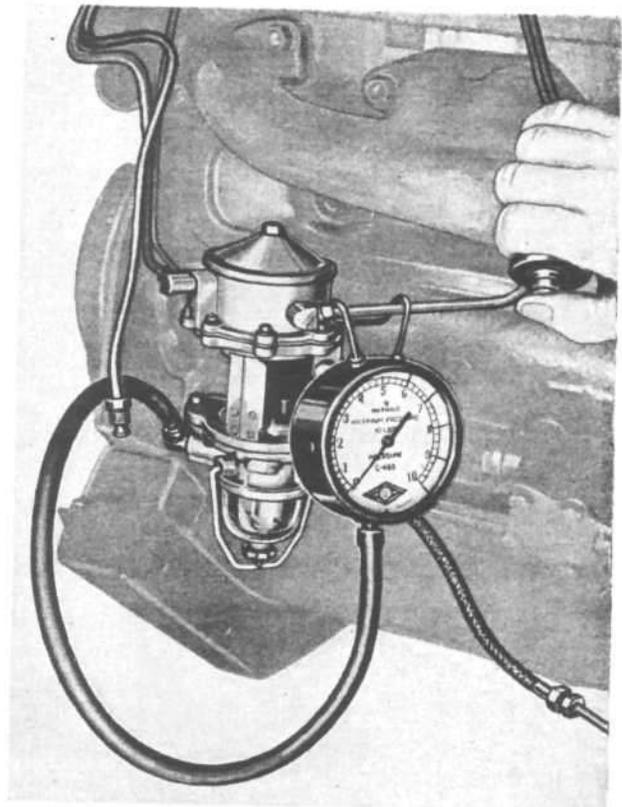

FIG. 139—FUEL PUMP PRESSURE TEST
- c. Pressure Test: pressures should be between the maximum and minimum shown in the specification table at end of this section. This test should be made with a pressure gauge connected to a "T" fitting at the carburetor, or directly to the fuel pump fitting as shown in Fig. 139 if the length of tubing used equals carburetor height. The length of the hose on the pressure gauge should not exceed six inches [15,2 cm] when connected to the carburetor fitting. Inaccurate pressure readings may result if a longer hose is used between the "T" connection and the pressure gauge.